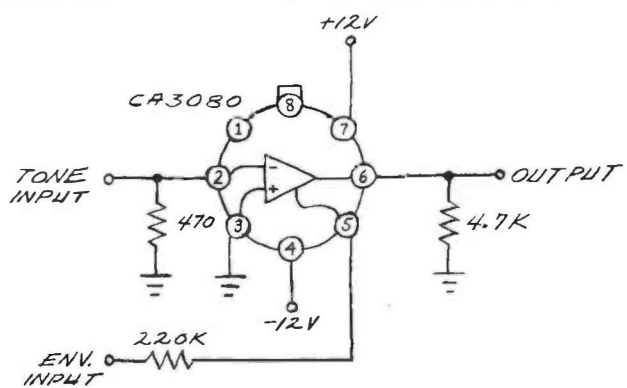

Fig. 1. The CA3080 gain-block IC used as a vca. Cost of unit in large quantities is about 50 cents.
Fig. 1. In a good keyer, pitch and envelope waveforms (above A) are combined to produce a note which is their mathematical product (below A). Output of poor keyer (B) has excessive transients; (C) has envelope in output; (D) has unequal positive and negative swings.
What a Keyer Does. Any keying circuit must simply control the gain of the tones fed through it. In Fig. 1 are shown some good and some bad things keyers do. The keyer must behave as a linear, electrically bilateral variable resistor. Ideally, it must introduce no coloration or significant distortion of its own (Fig. 1A).
A typical circuit in which the CA3080 is used is shown in Fig. 1. While the IC looks like an ordinary operational amplifier (the connections are about the same as for the 741 op amp, in fact), there are some important differences.